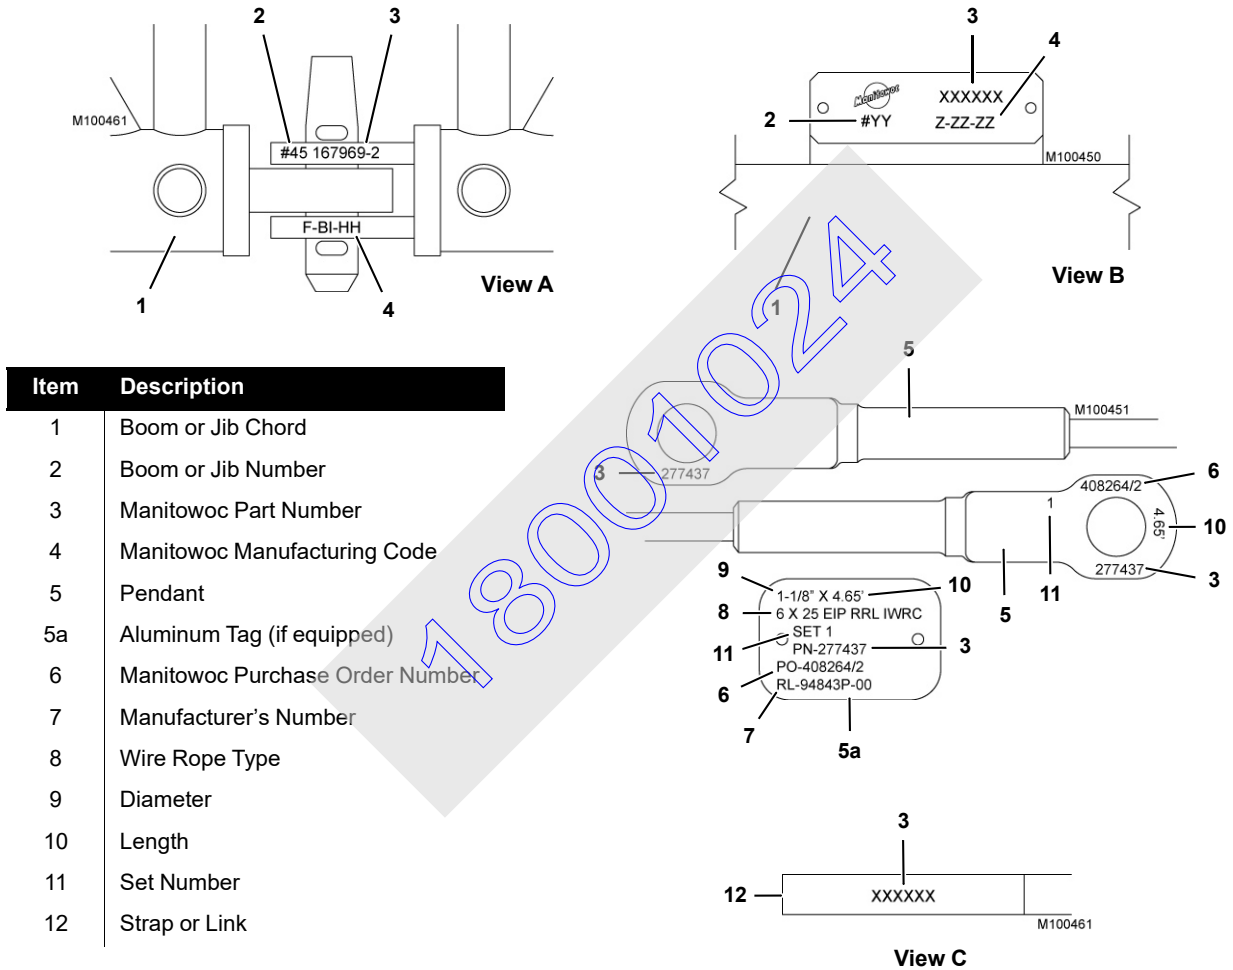

FIGURE 4-40
Boom and jib sections are marked for proper identification as shown in Views A and B, Figure 4-40.
Boom and jib pendants are marked for proper identification as shown in View C, Figure 4-40.
Boom straps and links are marked for proper identification as shown in View D, Figure 4-40.
**NOTE** The markings shown in Figure 4-40 can vary depending on when your crane was produced and the original equipment manufacturer.